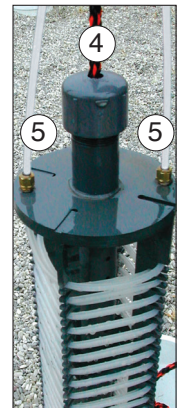

Figure 3
- 4b. If sampling within the Waterloo Emitter well is NOT required, attach a suspension line through a small hole drilled into a threaded top cap. Knot the cord so it will not pull through the hole. (See 4) Figure 3).
5. Attach appropriate lengths of 1/4" (6.4 mm) O.D. polyethylene tubing to extend from the top end 1/4" (6.4 mm) fittings on the Emitter (5) (See Figure 3) to the gas supply and vent manifolds.